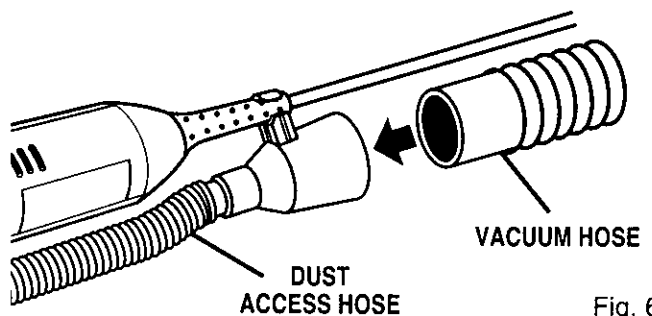

Fig. 6
- Install vacuum to end of Dust Access Hose. See Figure 6.